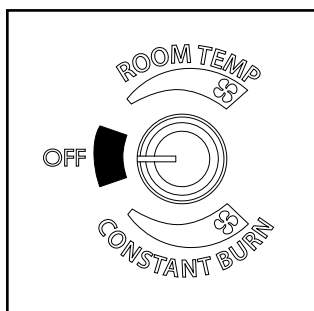

Figure 4.2
1. A room sensor is required for proper operation of this appliance in "Room Temp" mode. At this time, fill the hopper with pellets, ensure the control is set to "OFF". Figure 4.2. Plug the power cord into a properly grounded, nearby outlet.